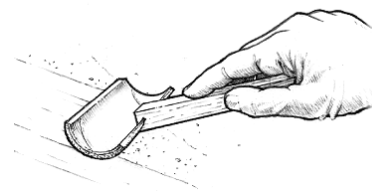

Figure 31 Tip off the coating by dragging a foam roller brush lightly over the fresh epoxy.
8. Tip off the coating by dragging a foam roller brush lightly over the fresh epoxy in long, even, overlapping strokes after each batch is applied. Use enough pressure to smooth the stipple, but not enough to remove any of the coating (Figure 31). Alternate the direction in which each coat is tipped off, 1st coat vertical, 2nd coat horizontal, 3rd coat vertical, etc. An 800 Roller Cover can be cut into segments to make a tipping brushes.